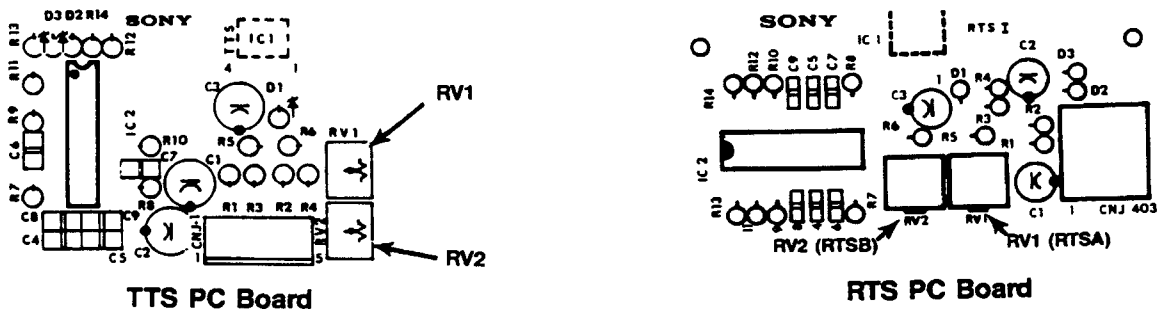

Figure 6-10. TTS/RTS Board Adjustment Potentiometers
- STEP 2** Adjust RV1 on the supply RTS board so that the RTSA signal seen at pin 2 of IC13 has a duty cycle of 50%. (refer to Figure 6-10)
- STEP 2** Adjust RV2 on the supply reel RTS board so that the RTSB signal as seen at pin 4 of IC13 of the TIB board has a duty cycle of 50%. (refer to Figure 6-10)
STEP 2 Adjust RV1 on the take-up reel RTS board so that the take-up reel RTSA signal as seen at pin 6 of IC13 on the TIB board has a duty cycle of 50%. (refer to Figure 6-10)
STEP 2 Adjust RV2 on the take-up reel RTS board (refer to Figure 6-10) so that the take-up RTSB signal seen at IC13 pin 12 (on the TIB board) has a duty cycle of 50%.